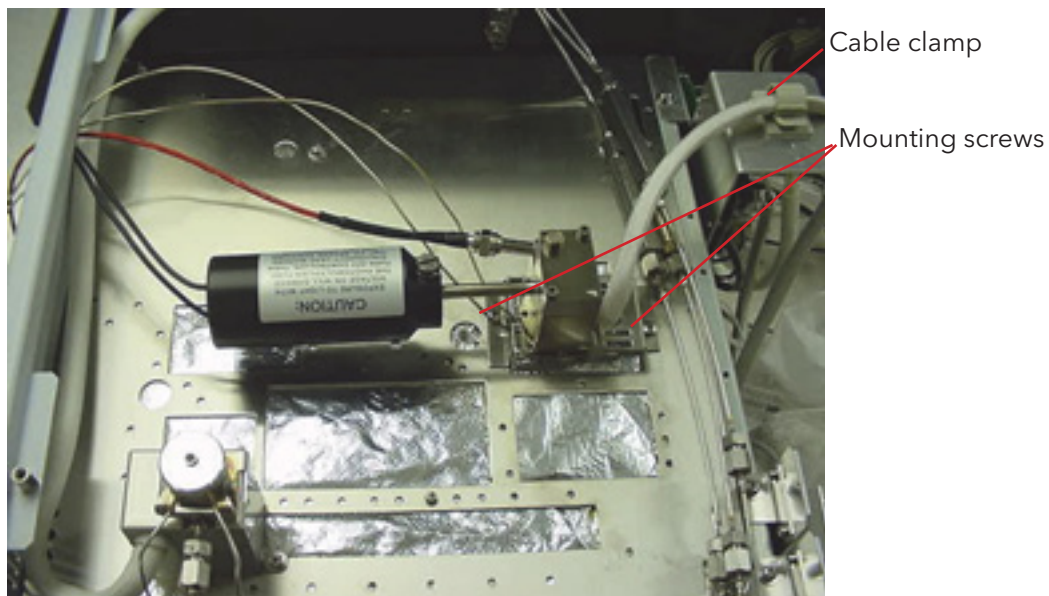

Figure 3.13. Mounting Screw Position
5. Attach the cable clamp (PN 321904, provided in startup kit) to the top of the GC bracket (as shown in Figure 3.13).
- Attach the PFPD mounting plate to the GC top plate using the two screws provided in the startup kit (PN 169963). Use Figure 3.13 as a reference for the position of the mounting screws.